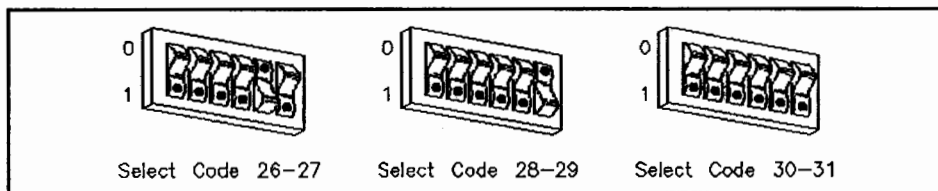

Figure 4-80. Select Code Switches for Values 26-27, 28-29, and 30-31
- b. Set the switches to an external addressing mode. Set these switches to one of the three select codes given in Figure 4-80. If you have already assigned the select codes in Figure 4-80, refer to the installation note that came with the interface if you need additional select code switch settings.